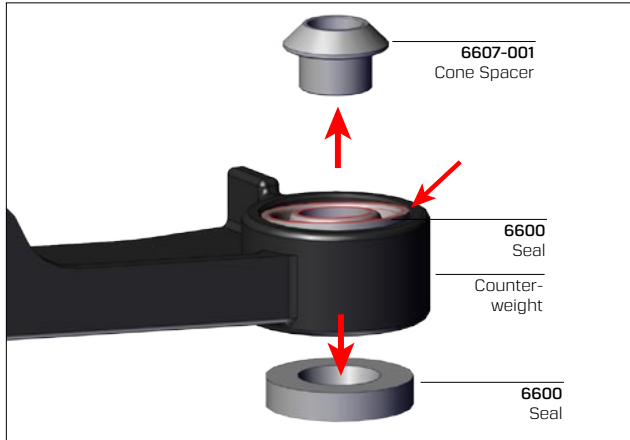

Fig. 5.
- A. As shown in Fig. 5, remove **#6607-001** cone spacer from counterweight.